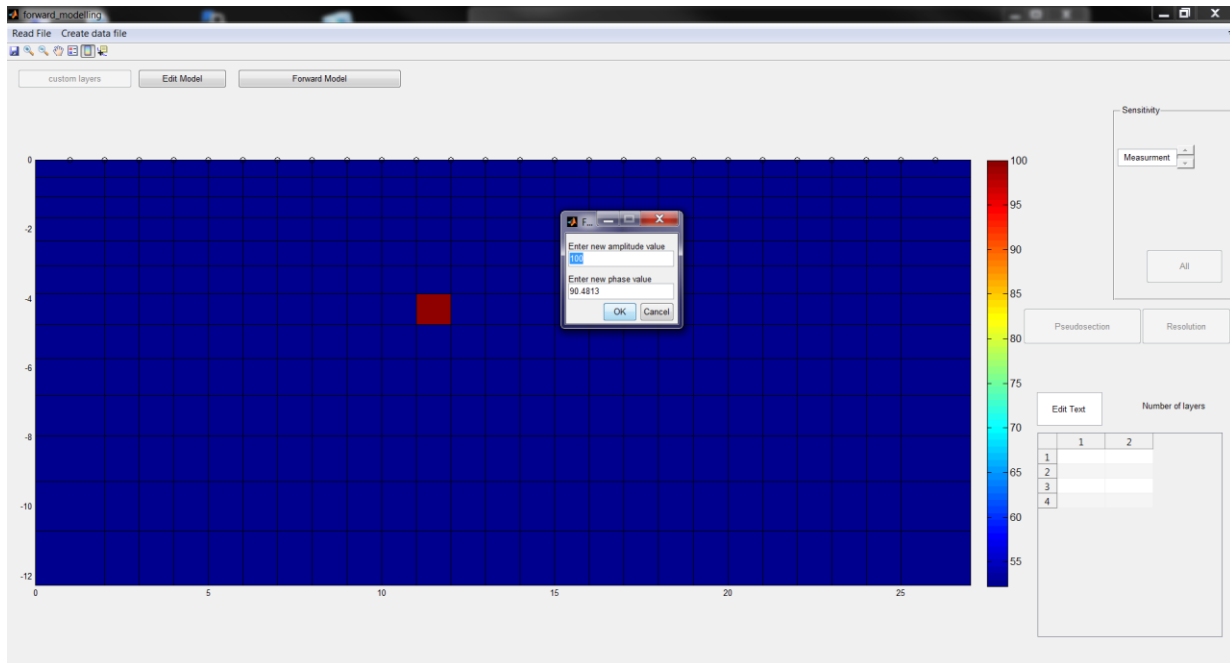

Figure 7: Creating a 2D synthetic model. By clicking the *Edit Model* button, user selects the parameter to change the corresponding resistivity and IP parameter.
This GUI frontend is used to calculate the forward response of a user input resistivity model (Figure 7 and 8).
- In the 2D case, the user selects the cells and assigns a resistivity (or amplitude and phase) (Figure 7).